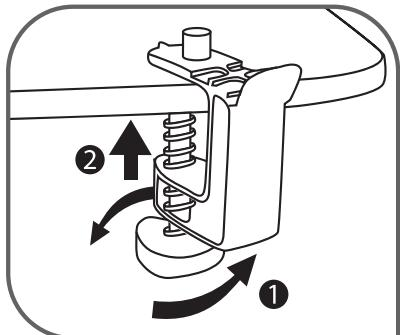

Fig.1
- Attach the EasyFix system onto the ironing board by turning the screw. It is normal that the small piece attached to the screw is mobile – **fig.1**.